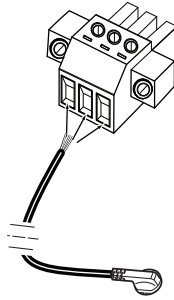

Figure 12 Connecting the main power cable to the main power terminal
1. Strip 7 mm of insulation off one end of the AC power cable, and connect it to the main power terminal, as shown in Figure 12.
1. Strip 7 mm of insulation off one end of the backup power cable and connect it to the backup power supply, as shown in Figure 12.